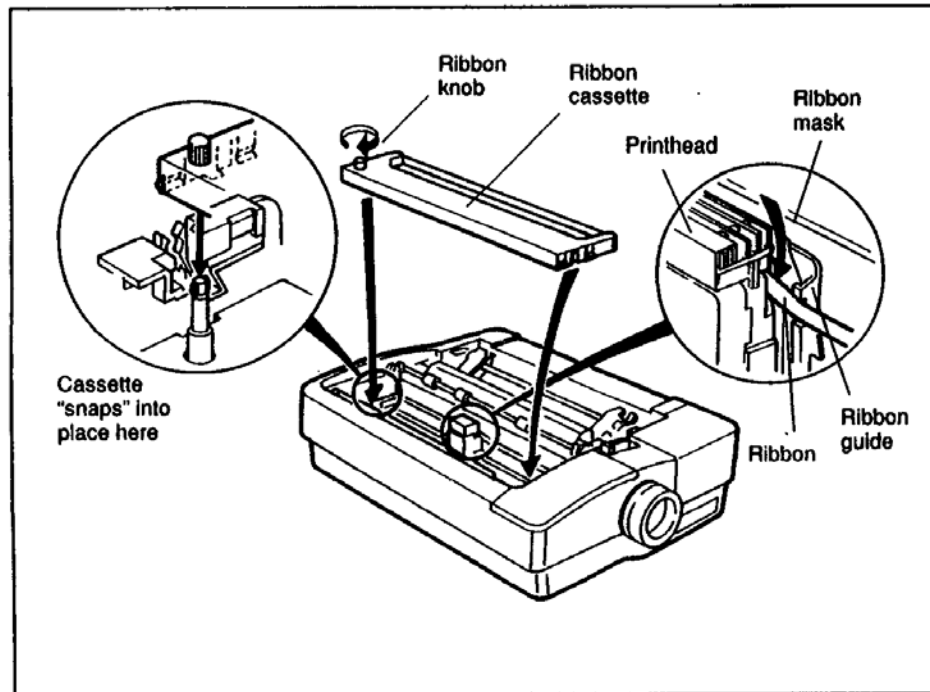

Figure 1-5. Install the ribbon cassette.
3. Lower the ribbon cassette into place and snap it down. When properly installed, the ribbon cassette will not lift out easily; it "snaps" out. See Figure 1-5.
4. Slide the ribbon down into position between the printhead and the metal ribbon mask. This is easy to do! Do not force the ribbon between the ribbon mask and the ribbon guide {the black plate closest to the platen}. See Figure 1-5.